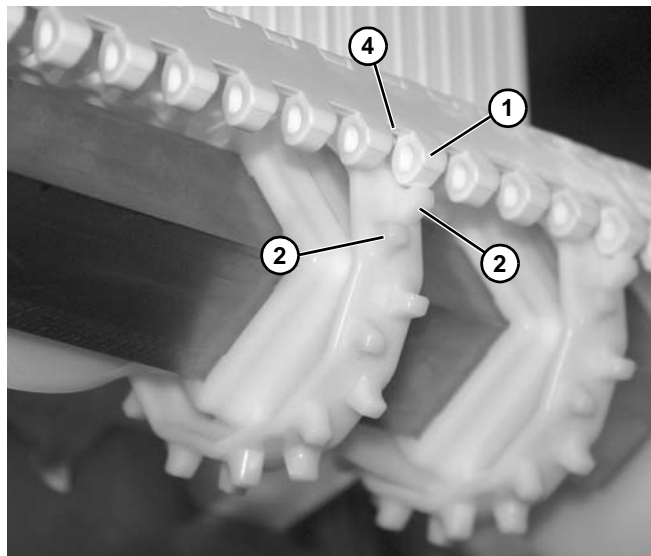

Figure 19
4. Make sure that the sprocket teeth have engaged the belt, with concave teeth (**Figure 19, item 1**) mating with rounded section (**Figure 19, item 2**) of belt and drive teeth (**Figure 19, item 3**) mating with flat surface (**Figure 19, item 4**) of belt.